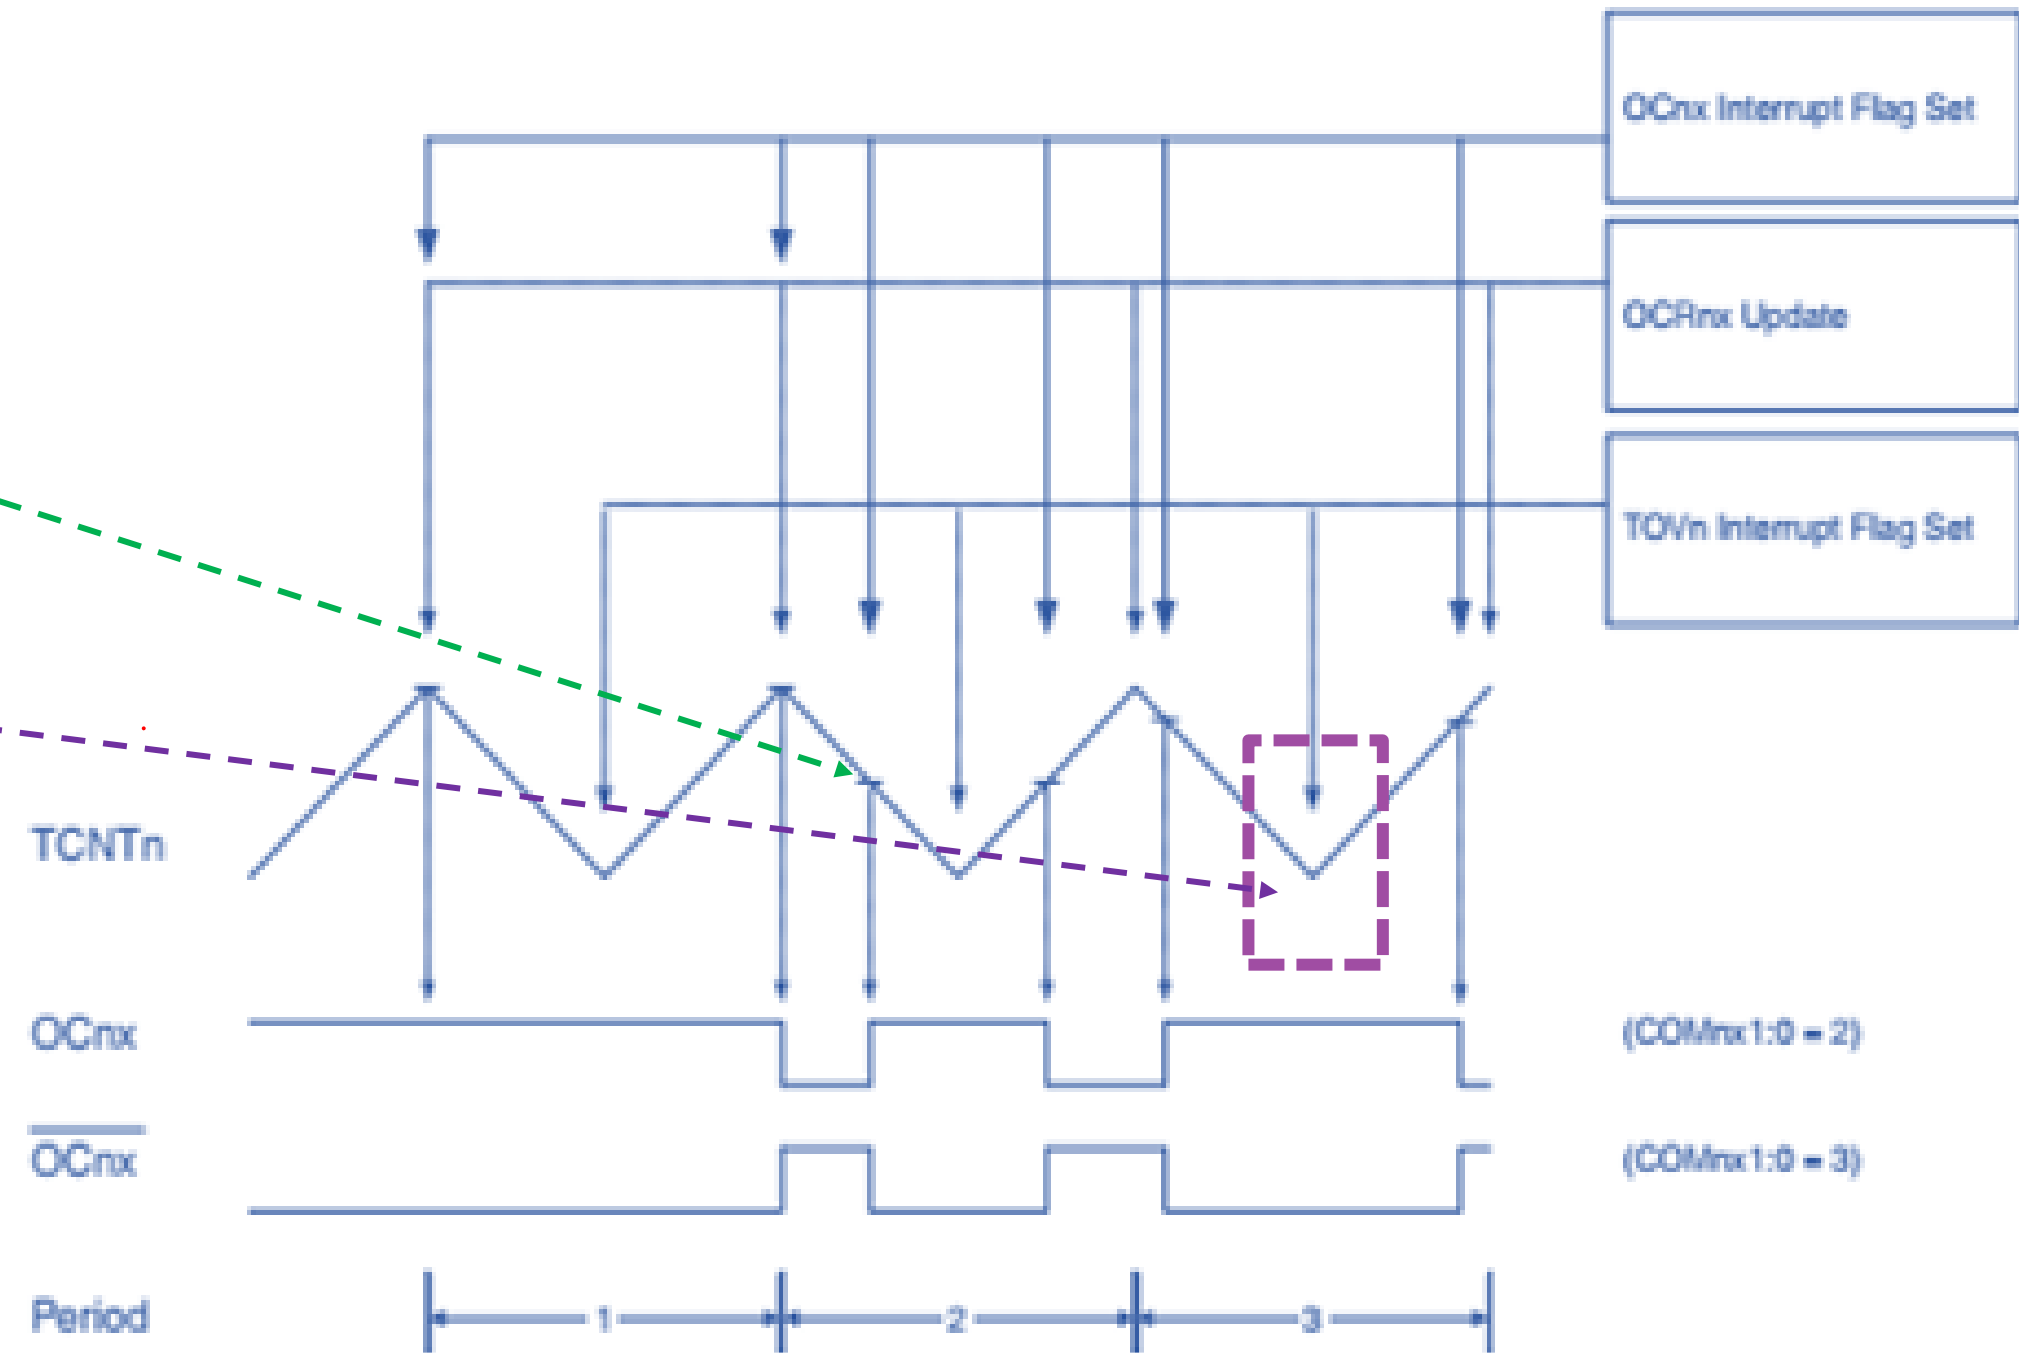

Figure 12.7 Timing Diagram of the Phase Correct PWM Mode
- ☐ The TCNT0 value will be equal to TOP for one timer clock cycle. The timing diagram for the phase correct PWM mode is shown on **Figure 12.7.**